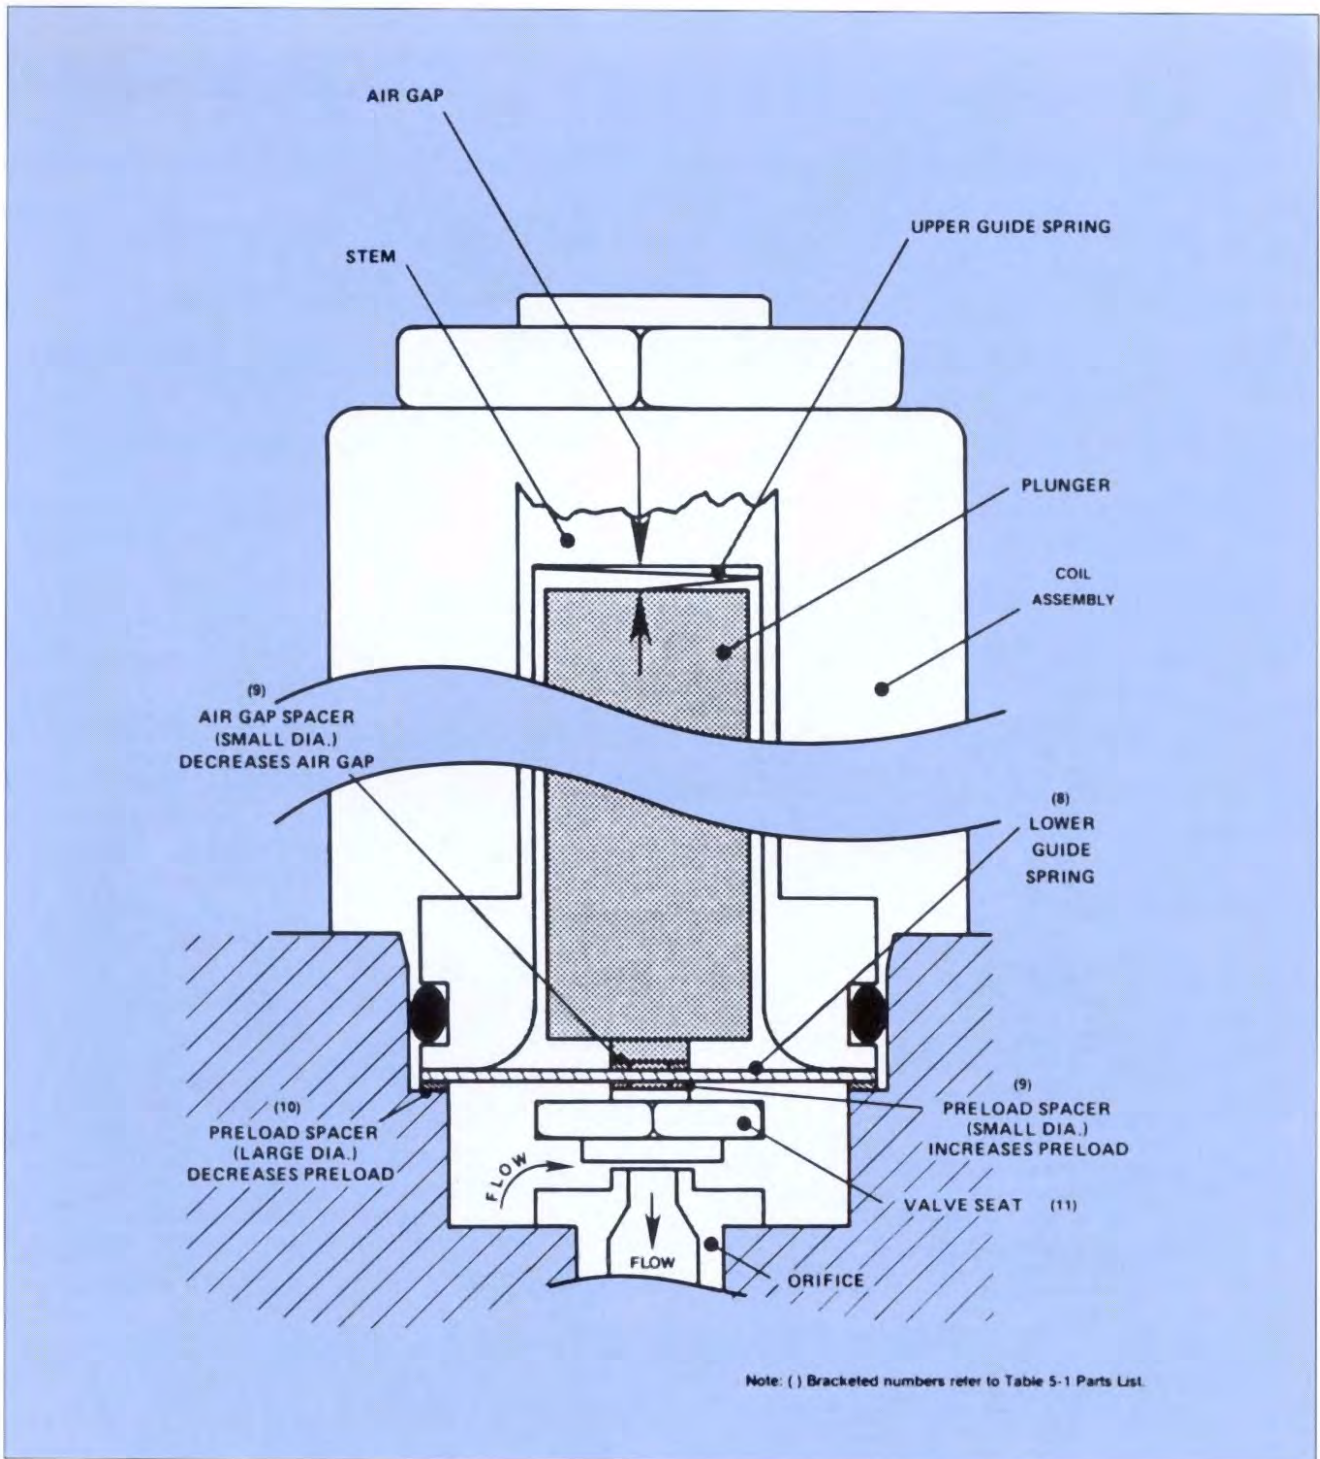

Figure 4-2 Pilot Valve Adjusting Spacer Locations
The valve is adjusted in Brooks mass flow controllers by adding spacers to the control valve assembly to vary the air gap and initial preload. Spacers are used to affect the proper adjustment because they provide a reliable and repeatable means for adjustment. Screw type adjustment mechanisms can change with pressure or vibration and introduce an additional dynamic seal that is a potential leak site and source for contamination. Refer to figure 4-2 for spacer locations.
- Remove the electronics cover (2) from the controller. Ensure that the connector from the coil assembly (34) is properly connected to the PC board after the electronics cover is removed.
- Decrease the preload of the valve by 0.05 mm by either removing a 0.05 mm small preload spacer or by adding a 0.05 mm large preload spacer and 0.2 mm small preload spacer. Refer to figure 4-2.
- If the flow controller output signal is 100% and the valve voltage is greater than 11.5V, decrease the air gap with a small 0.05 mm air gap spacer. Refer to figure 4-2. Repeat steps h and i.